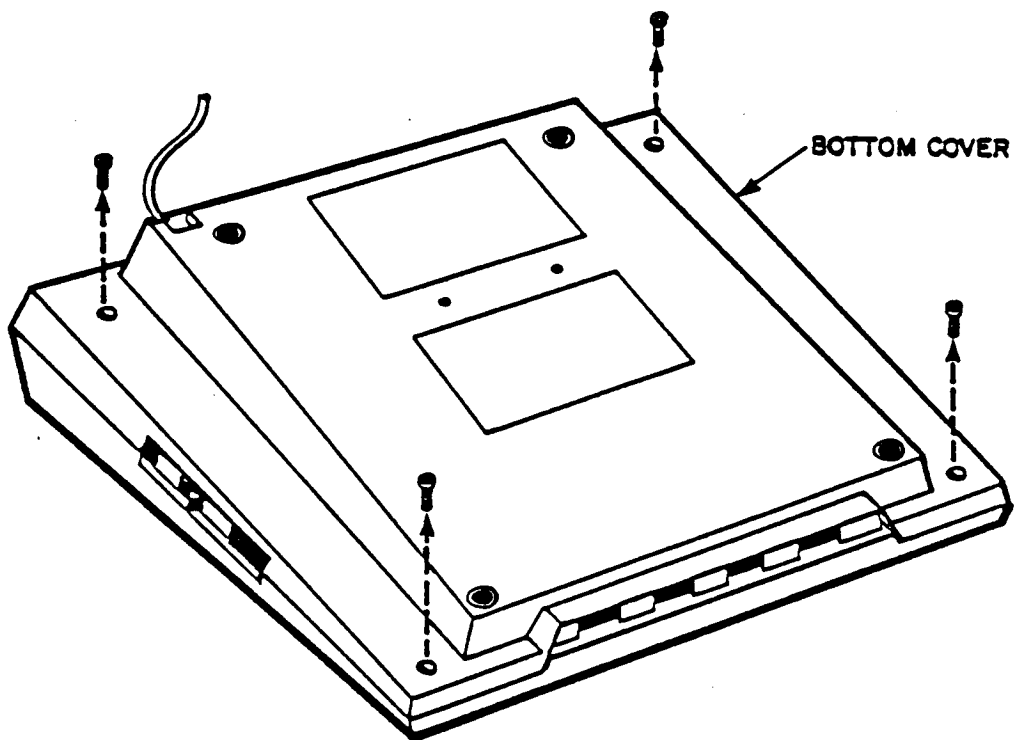

Figure 4-1. ATARI 400 Console, Bottom Cover Screw Location
- Remove four screws from the bottom cover (See Figure 4-1).